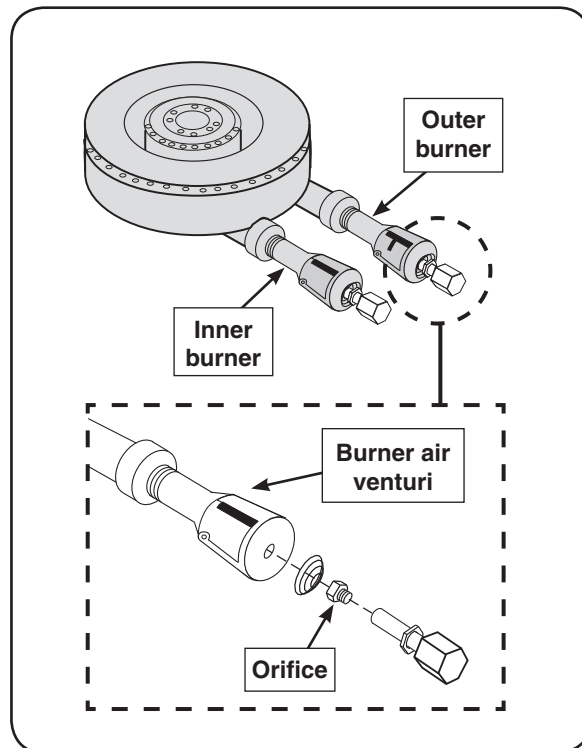

Fig. 28-1 Burner air shutter / orifice orientation
3. The orifice size is stamped on each orifice face (see Fig. 28-1).